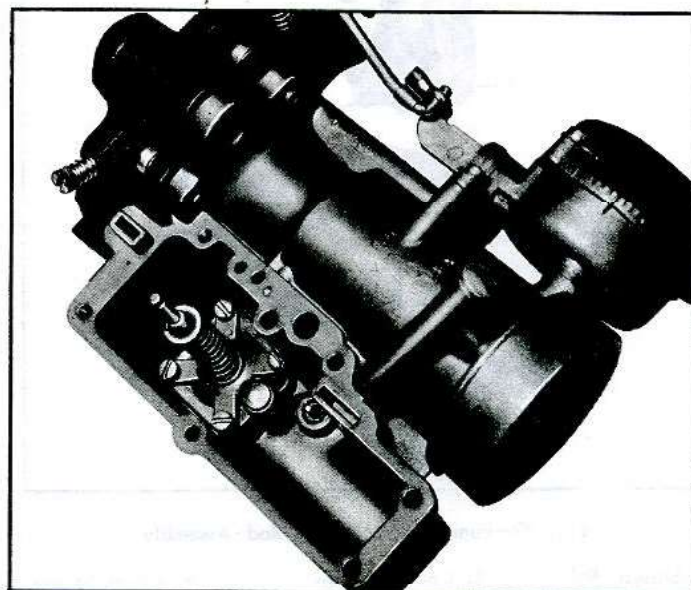

Fig. 28—Pump Diaphragm and Metering Jet Installation
6. Install diaphragm housing screws in housing and thread them 2 or 3 threads into diaphragm (to hold diaphragm in alignment), then install the assembly in carburetor bowl and tighten screws (fig. 28).